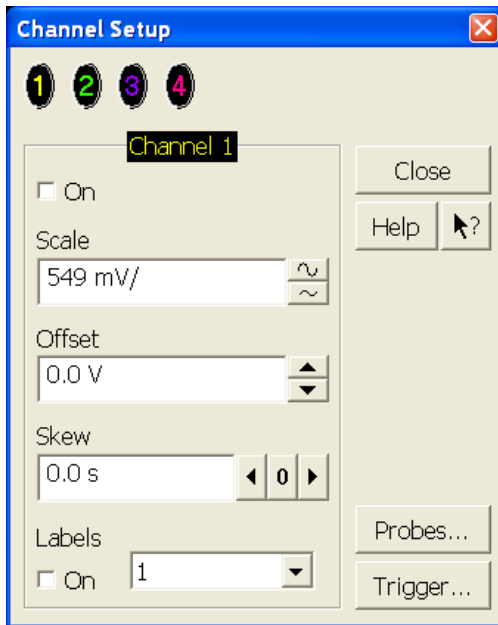

Figure 61 Channel Dialog Box
- In the Channel Setup dialog box, select the Probes... button, as shown in Figure 61.